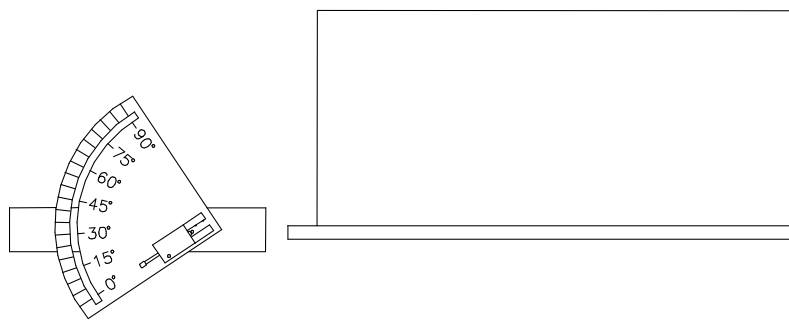

Figure 3. Projectile motion apparatus and landing pad.
2. After the brief TA discussion, familiarize yourself with the apparatus. The central feature of the setup is a “spring-loaded gun” mounted on a plate marked in degrees, as shown in Fig. 3. The plate can be rotated around a horizontal axis to set the initial direction of motion: a desired angle can be set by loosening the knurled screw attached to the plate, aligning the required angle mark with the horizontal mark on the stand and then tightening the screw.